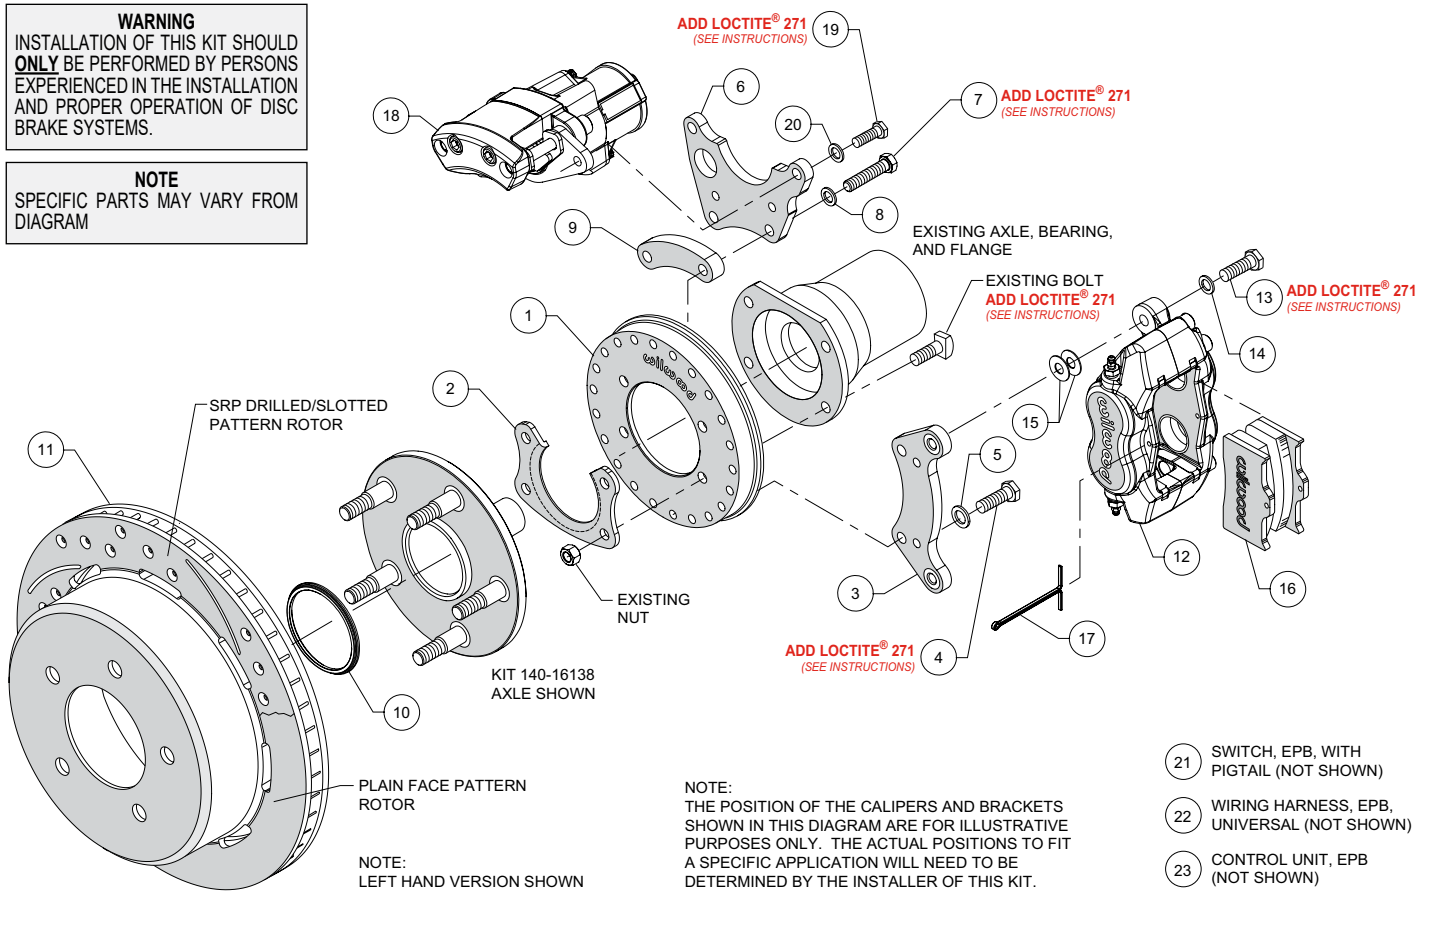
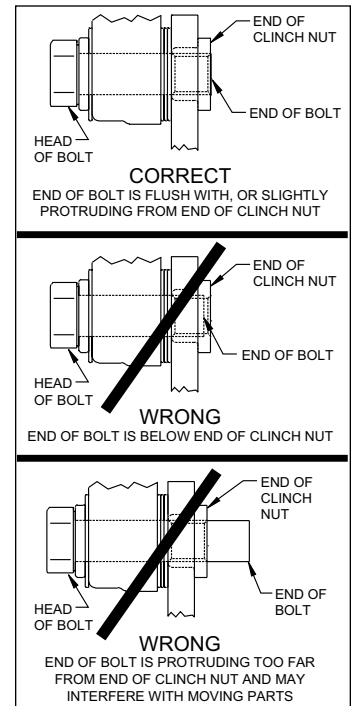

Figure 1. Typical Installation Configuration
Figure 5. Clinch Nut Engagement Diagram
NOTE: Numbers in parenthesis refer to the parts list and Figure 1 on the preceding pages.
CAUTION: All mounting bolts must fully engage clinch nuts. Be sure to check that all bolts are either flush or protruding through flanged side of clinch nut after shimming, Figure 5.
- Orient the backing plate (1) as shown in Figure 1 and Photo 1, and slide it onto the axle housing flange. Ensure the backing plate fits flush against the axle housing flange. Reinstall the axle into the axle housing.
- Install the bearing retainer (2) with the opening pointing upward and the lip facing inward (toward the bearing), as shown in Figures 1 and 4, and Photo 2. Secure retainer and backing plate to the axle housing flange using the Original Equipment Manufacturer (OEM) bolts and nuts, Figure 1 and Photo 3. Apply red *Loctite*® 271 to the OEM bolt threads and torque to OEM specifications.
- Start by determining the best location for the service caliper (12). This caliper is usually mounted in the 3:00 or 9:00 o'clock position, but may be rotated up or down approximately 45 degrees and still allow for proper bleeding, Photo 4. Orient the service caliper bracket (3) as shown in Figure 1 and Photo 5, and install to the backing plate (1) in the desired location using bolts (4) and washers (5). Temporarily tighten bolts. Next, mount the service caliper to the bracket using bolts (13) and washers (14). Temporarily tighten bolts. Check that the caliper (including inlet fitting and hose) has sufficient clearance to all surrounding components through the full suspension travel. Relocate the caliper/bracket on the backing plate as needed to ensure proper clearance is achieved.
- Determine the best location for the EPB caliper (18). **NOTE:** *The EPB caliper motor extends farther inboard than the service caliper and therefore needs additional consideration when determining a mounting location with sufficient clearance.* In the example application shown in Photo 6, the EPB caliper has sufficient inboard clearance to the leaf spring. However, if the EPB caliper were mounted closer to the 12:00 o'clock position, the inner body of the vehicle would hit the caliper during full compression of the suspension.
- Orient the EPB caliper bracket (6) as shown in Figure 1 and Photo 7, and install to the backing plate (1) in the desired location using bolts (7), washers (8), and spacer (9). Temporarily tighten bolts. **NOTE:** The EPB bracket is reversible. In one direction the bracket will position the EPB caliper closer to the service caliper, and vice versa if reversing the bracket. Next, mount the EPB caliper (18) to the bracket using bolts (19) and washers (20). Temporarily tighten bolts. **NOTE:** EPB calipers are Left and Right handed, however they can be used on either side of the vehicle to best suit your specific application. Check that the EPB caliper (including wiring harness connector) has sufficient clearance to all surrounding components through the full suspension travel. Relocate the EPB caliper/bracket on the backing plate as needed to ensure proper clearance is achieved.
- Once the caliper positions have been determined, remove both the service (12) and EPB (18) calipers, leaving both brackets in place on the backing plate. For both brackets, remove the bolts one at a time, apply red *Loctite*® 271 to the threads, and torque to 35 ft-lb.
- Slide the rotor registration adapter (10) onto the register on the axle flange with the smaller O.D. facing toward the rotor/hat (11), Photo 8. Align the hole pattern in the rotor/hat with the stud pattern on the axle flange and slide into place, Figure 1. **NOTE:** The rotor/hat must fit flush against the axle flange or excessive rotor run out may result. Install three lug nuts (finger tight) to keep the rotor/hat assembly in place while continuing with the installation. **NOTE:** Some OEM and after market axles come with stud sizes larger than 0.50" diameter. Verify stud size and have a qualified machine shop drill the bolt circle of the hat/rotor to the correct stud size, if necessary.
- NOTE:** Please reference the caution statement at the beginning of the assembly instructions. Remount the service caliper (12) onto the caliper mounting bracket (3) using bolts (13) and washers (14), as shown in Figure 1. Initially place two .035" thick shims (15) on each bolt between the caliper and the bracket, Photo 9. Temporarily tighten the mounting bolts and view the rotor (11) through the top opening of the caliper. The rotor should be centered in the caliper, Photo 10. If not, adjust by adding or subtracting shims (15) between the bracket (3) and the caliper (12). Always use the same amount of shims on each of the two mounting bolts. **NOTE:** The end of each bolt must be flush with or slightly protruding from the head of the clinch nut, as shown in Figure 5. If necessary place spare shims (15) between washer (14) and caliper (12) mounting ear to achieve the proper clinch nut engagement. Once the caliper alignment and clinch nut engagement are correct, remove the bolts (13) one at a time, apply red *Loctite*® 271 to bolt threads, and torque to 40 ft-lb.
- Install the disc brake pads (16) into the service caliper (12), with the friction material facing the rotor (11), Photo 11. Secure the pads in place using the cotter pin (17), Photo 12.
- Mount the EPB caliper (18) onto the caliper mounting bracket (6) using bolts (19) and washers (20), Figure 1. Apply red *Loctite*® 271 to bolt threads, and torque to 30 ft-lb.
- NOTE:** *The service caliper (12) in this brake kit utilizes a 1/8-27 NPT pipe thread inlet. OEM rubber brake hoses generally cannot be adapted to Wilwood calipers.* The preferred method is to use steel adapter fittings at the caliper, either straight, 45 or 90 degree (use PTFE tape on pipe threads of adapter fitting for proper sealing to caliper) and enough steel braided line to allow for full suspension travel. **Carefully route hoses to prevent contact with moving suspension, brake or wheel components.** **NOTE:** *Wilwood hose kits are designed for use in many different vehicle applications and it is the installer's responsibility to properly route and ensure adequate clearance and retention for brake hose components.* Wilwood offers universal brake flex line hose kits, domestic (3/8-24 IF) chassis fittings, order: